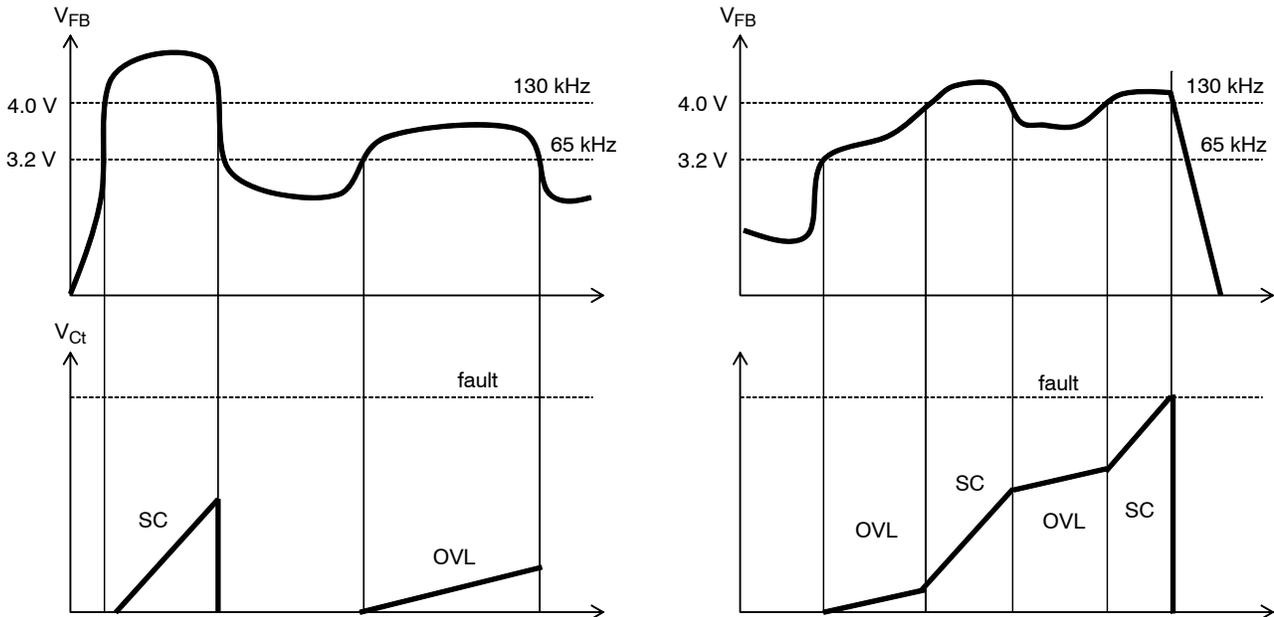

Figure 49.
2.4 V. When the maximum peak current situation is lifted, the converter returns to a normal situation, the timer is reset. The short circuit situation is detected by sensing a feedback voltage beyond 4 V. For the sake of the explanation, we have gathered two different events in Figure 49: